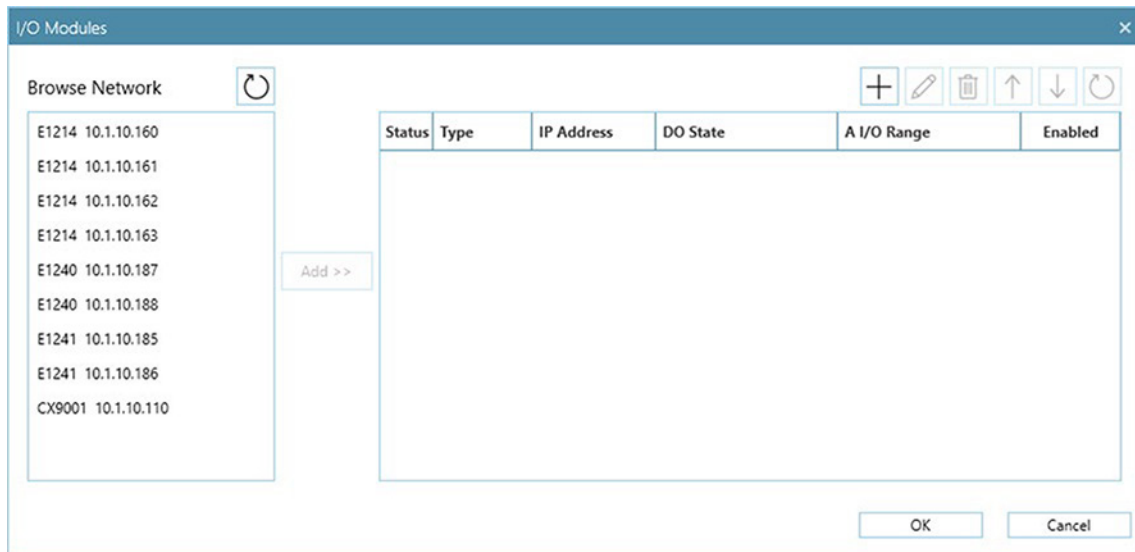

Fig. 5-10 Typical IO Modules screen
- 1) From the **Settings** menu, select **Communication** then **Modules**. Any modules detected on your system will be displayed on the left-hand column of the **IO Modules** screen, as shown in Fig. 5-10.